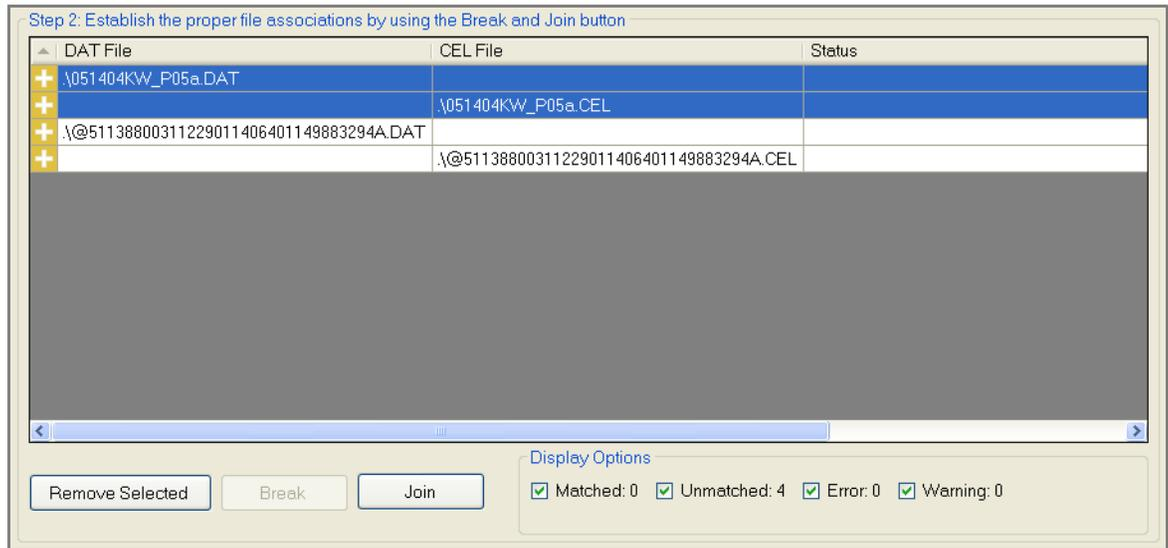

Figure 3.6 Files selected for joining.
5. To join two unconnected files (Figure 3.6):